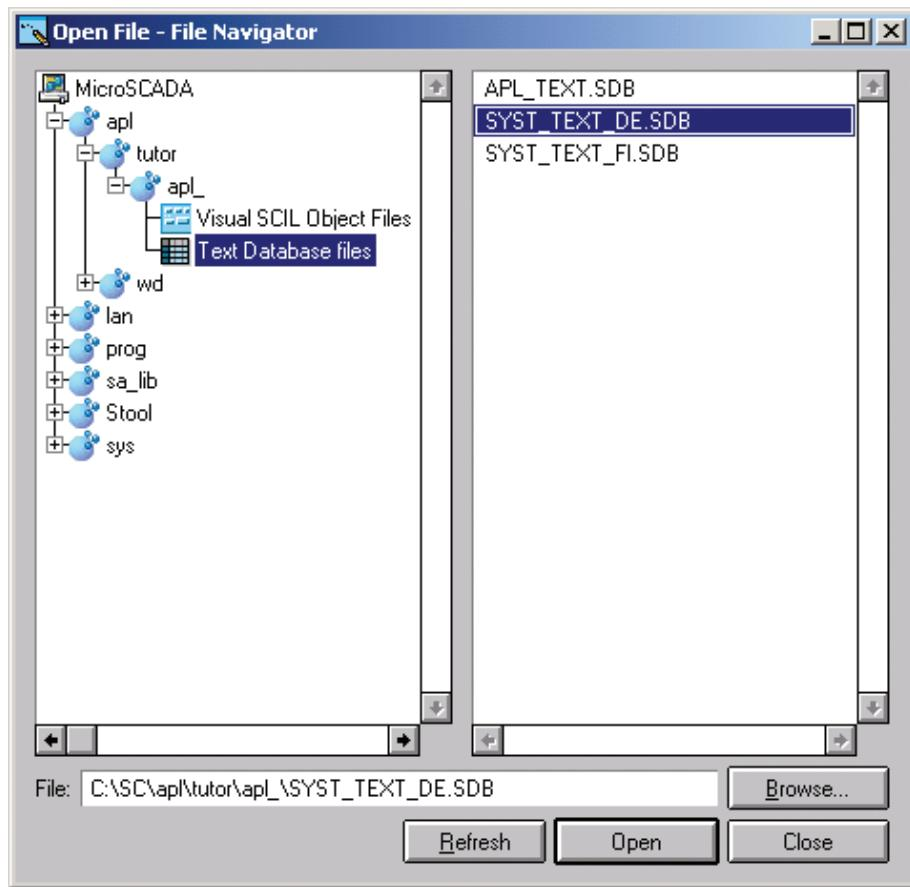

Figure 229: File Navigator dialog
6. Open Text Tool by using the Tool Manager and open the defined apl/_syst_text_de.sdb. File apl/_syst_text_de.sdb can be opened by selecting **File/Open** and navigating to the correct object in the appearing dialog, see Figure 229.